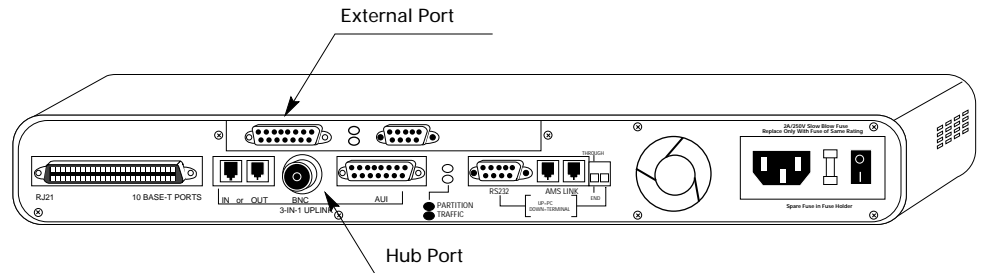

Figure 1-10 Connecting to the External Port
- 5 Connect the second MAU to the AsantéBridge hub port, which is actually the hub 3in1 port. See Figure 1-10 on page 1-19 for the location.